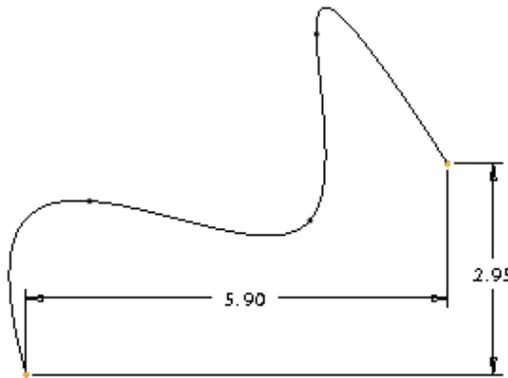

Figure 2-15 Endpoint dimensioning
2. Select the two endpoints of the spline and place the horizontal or vertical dimension by pressing the middle mouse button. Figure 2-15 shows a spline that is dimensioned by selecting the endpoints.